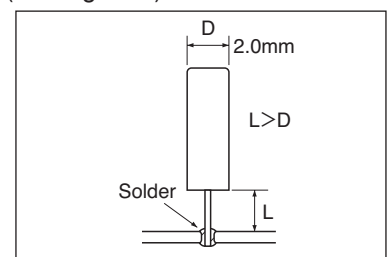

Figure 7
- (2) Always leave a length greater than 2.0mm when bending a lead after soldering (see Figure 7).